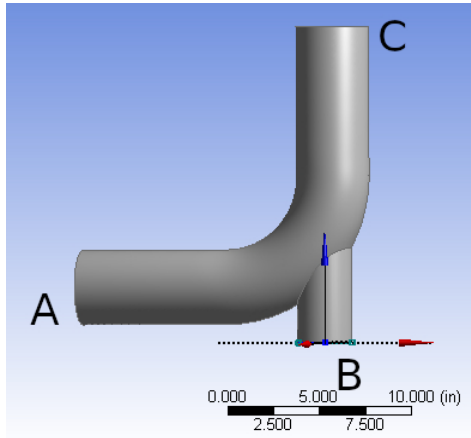

Fig. 1
- (i) Follow Step 7 in Tutorial #1 to enlarge the "side pipe". Instead of 0.75 in as used in the tutorial, increase the radius of the pipe to $R = 1.5$ in (i.e., increase the diameter of the pipe to 3.0 in). To ensure a smooth connection between the side pipe and the main pipe, when the radius of the small pipe is increased to 1.5 in one should also increase the "depth" of extrusion in step "x." in p. 1-15 of Tutorial #1. The recommendation is to change it from 4.0 in to 6.0 in. Fig. 1 shows what the modified geometry should look like.